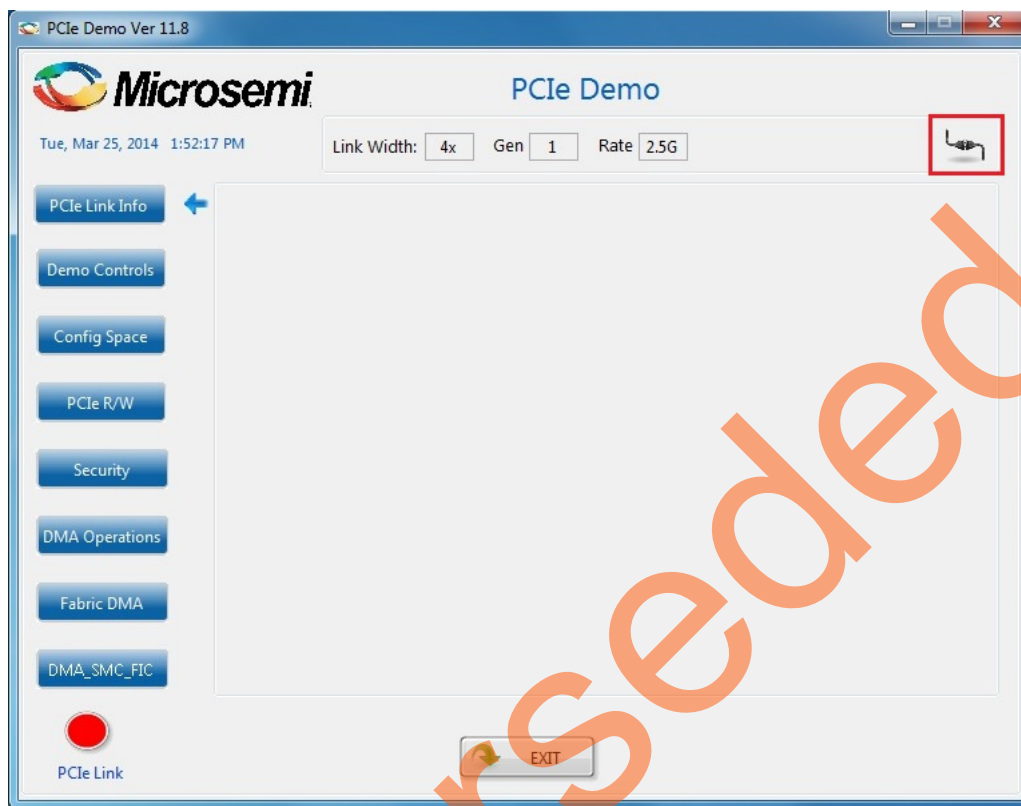

Figure 68 • PCIe Demo GUI
2. Invoke the GUI from **ALL Programs > PCIeDemo > PCIe Demo**. The GUI is displayed as shown in Figure 68.